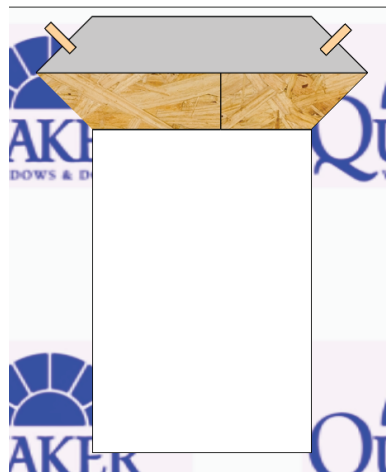

Fig. 4
- Fold flap up and temporarily tape in place. (Fig. 4)